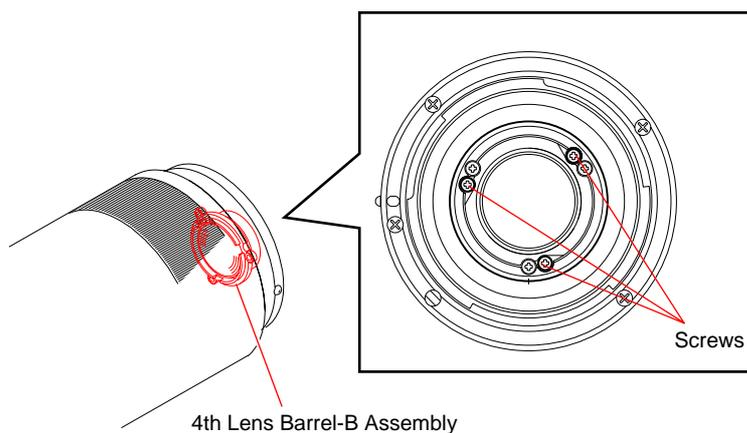

Fig.4-4-5
- 4) If the optical axis aligns the most unsharp, loosen the three screws shown in the Fig.4-4-5 and shift the 4th lens barrel-B assembly to let the vertical and horizontal.